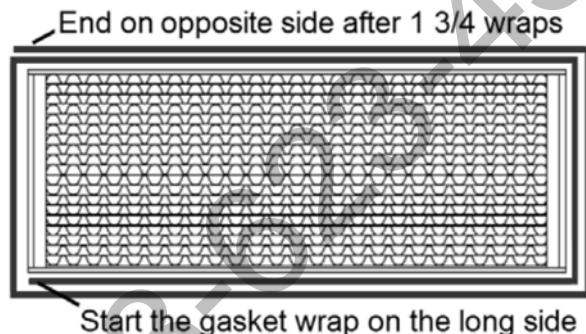

**Figure 18 - Acceptable Catalyst Dimensions**
9. Some warping or bowing of the catalysts over time is acceptable, as long as the catalyst gasket continues to seal. Measure the catalysts in the middle section – if the dimensions are outside the range shown in Figure 18, replace the catalysts.